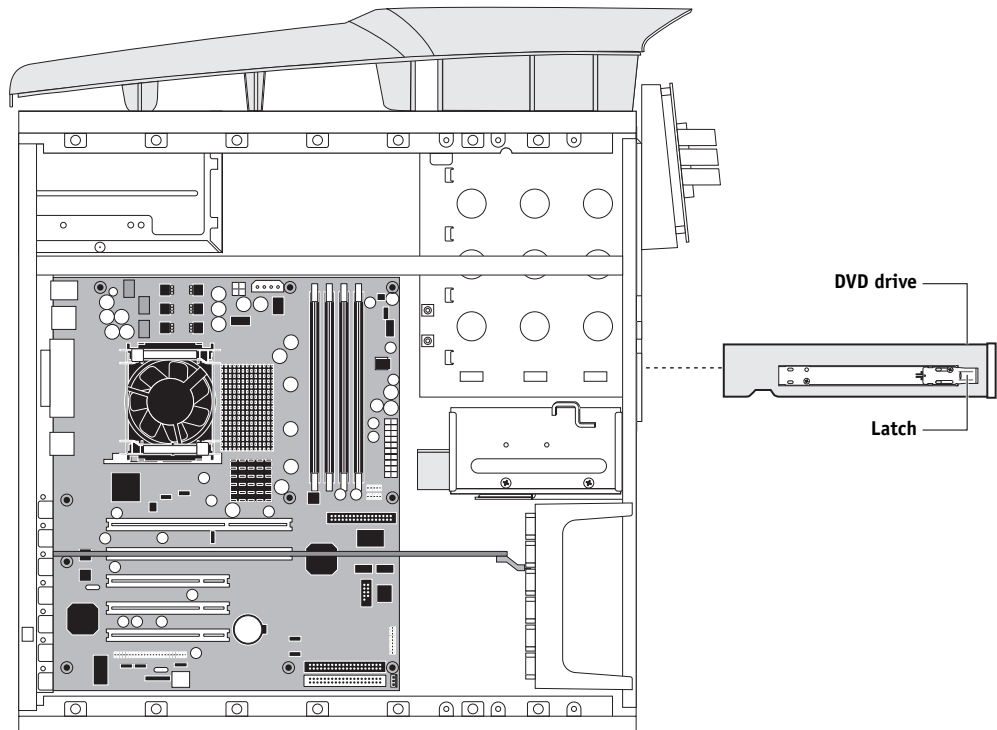

FIGURE 4-29 Removing/replacing the DVD drive
2. Align the DVD drive with its slot in the front of the chassis (see Figure 4-29 on page 4-52).